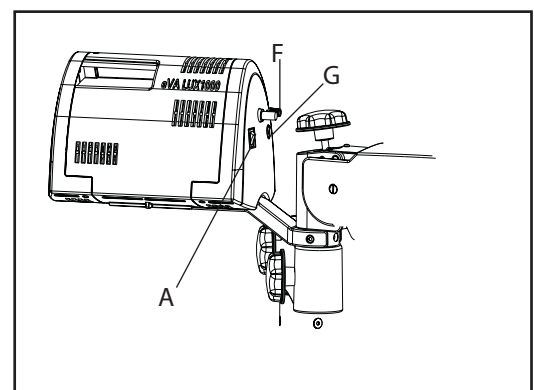

Fig. 8a
It is located in the front of the illumination box as shown as (A) in fig. 8a. At 'ON' position, green LED glows and cooling fan starts running. Keep the intensity control knob at minimum level before switching on the system.
10.6 Camera potentiometer inlet, shown as G in fig. 8a.
10.7 Yellow filter to swing in and swing out as shown as F in fig. 8a